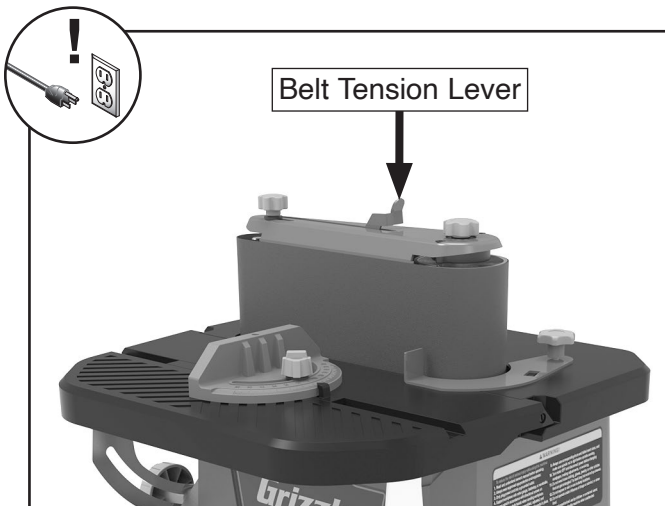

Figure 33. Belt tension lever all the way right.
2. Slide belt tension lever all the way right to release belt tension (see **Figure 33**).